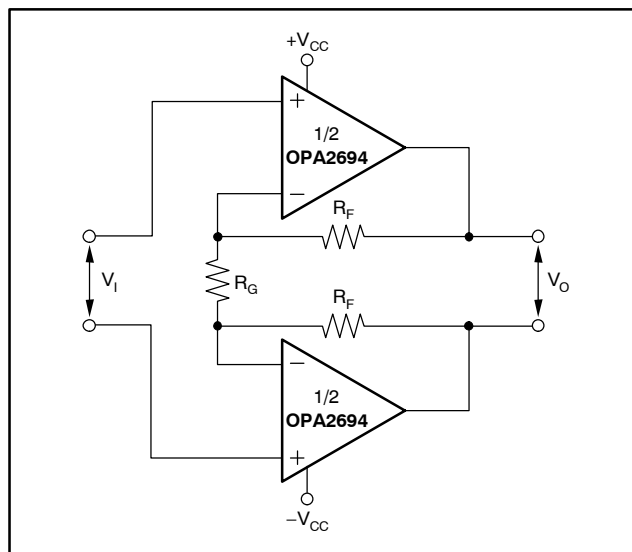

Figure 6. Noninverting Differential I/O Amplifier
Dual op amps are particularly suitable to differential input to differential output applications. Typically, these fall into either ADC input interface or line driver applications. Two basic approaches to differential I/O are noninverting or inverting configurations. Since the output is differential, the signal polarity is somewhat meaningless—the noninverting and inverting terminology applies here to where the input is brought into the OPA2694. Each has its advantages and disadvantages. Figure 6 shows a basic starting point for noninverting differential I/O applications.
This approach provides for a source termination impedance that is independent of the signal gain. For instance, simple differential filters may be included in the signal path right up to the noninverting inputs without interacting with the gain setting. The differential signal gain for the circuit of Figure 6 is shown in Equation (1):
Various combinations of single-supply or AC-coupled gain can also be delivered using the basic circuit of Figure 6. Common-mode bias voltages on the two noninverting inputs pass on to the output with a gain of 1, since an equal DC voltage at each inverting node creates no current through  $R_G$ . This circuit does show a common-mode gain of 1 from input to output. The source connection should either remove this common-mode signal if undesired (using an input transformer can provide this function), or the common-mode voltage at the inputs can be used to set the output common-mode bias. If the low common-mode rejection of this circuit is a problem, the output interface may also be used to reject that common-mode. For instance, most modern differential input ADCs reject